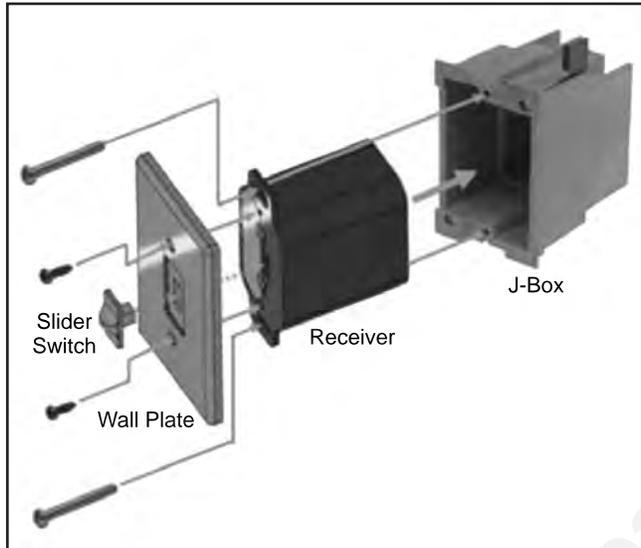

Figure 10: Wall Mounting the Receiver.
2. Install the Receiver in the Junction box using the existing J box screws (Figure 10).
3. Insert the four (4) AA type batteries in the battery compartment with the correct polarity.
9. Using the two (2) screws provided secure the cover plate to the Receiver.